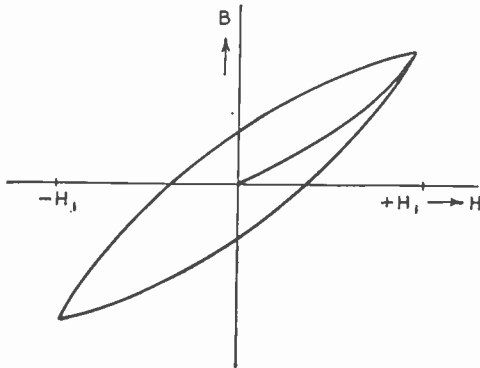

Fig. 8—Rayleigh's law.
Rayleigh's law consists of two parts, the first one pertaining to the magnetization curve proper, the other to the hysteresis loop. Suppose our specimen is completely demagnetized and we start from the zero point $H=0, B=0$ (Fig. 8). On continuously increasing the field H , the induction B increases continuously according to a parabolic law:
(11) representing the upper branch of the hysteresis loop (Fig. 8). (If the coefficient of the quadratic term in (11) were the same as in (10), the upper branch of the